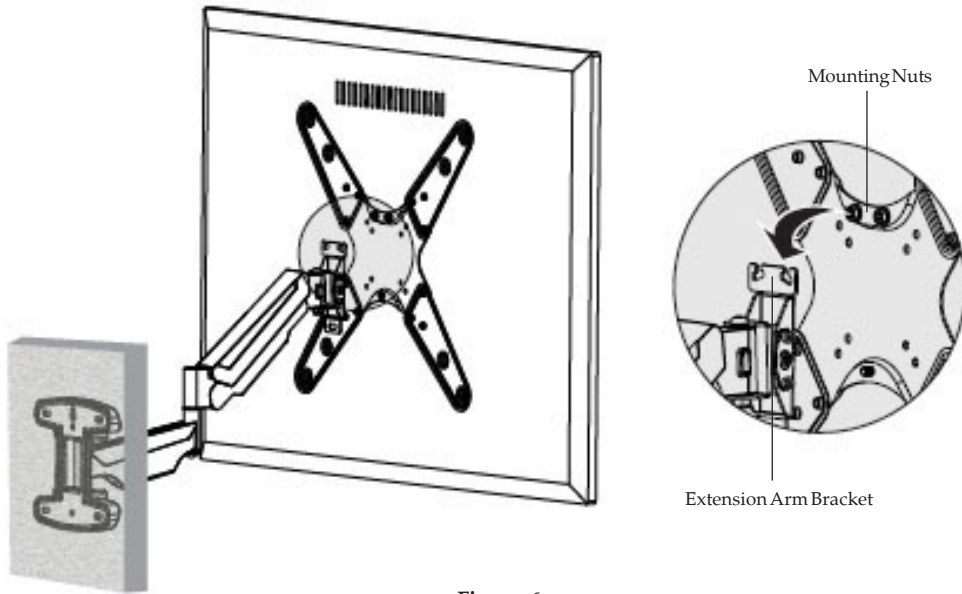

Figure 6
1. Hang the TV with VESA plate assembly onto the top of the extension arm bracket, then let the bottom of the VESA plate rotate to the bottom of the bracket, see **Figure 6**. **Note:** if needed, loosen the 2 mounting nuts slightly for easier installation.